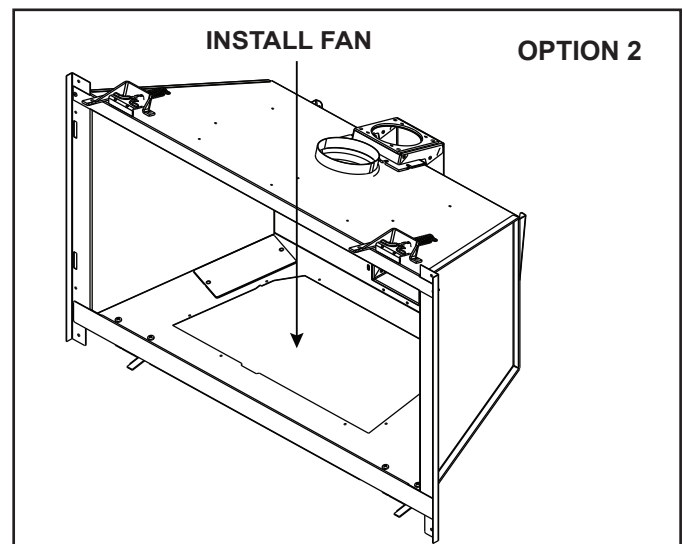

Figure 6.5 Through Valve Plate Opening (Option 2)
- Remove appliance front, glass, logs, base pan assembly, burner assembly and valve plate assembly. See Figure 6.5.